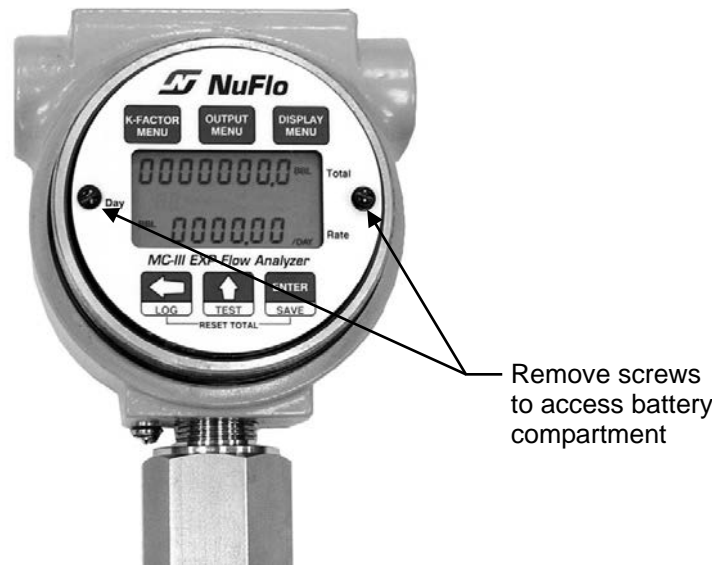

Figure 6.1— Removal of faceplate/keypad assembly
2. Using a small standard blade screwdriver, remove the two #4-40 × 7/8" screws located to the right and left side of the display (Figure 6.1, page 90).